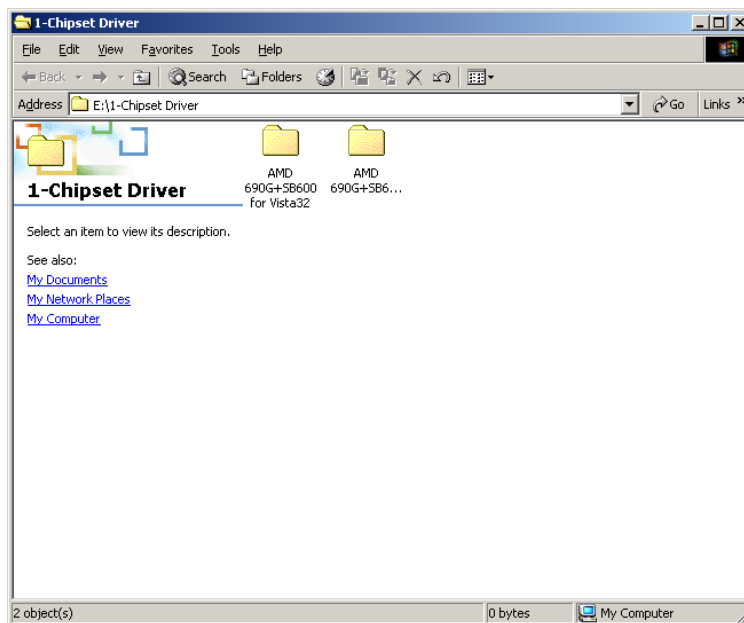

Figure 7-3: Chipset Driver Installation Program
Step 2: A new window opens (Figure 7-3).